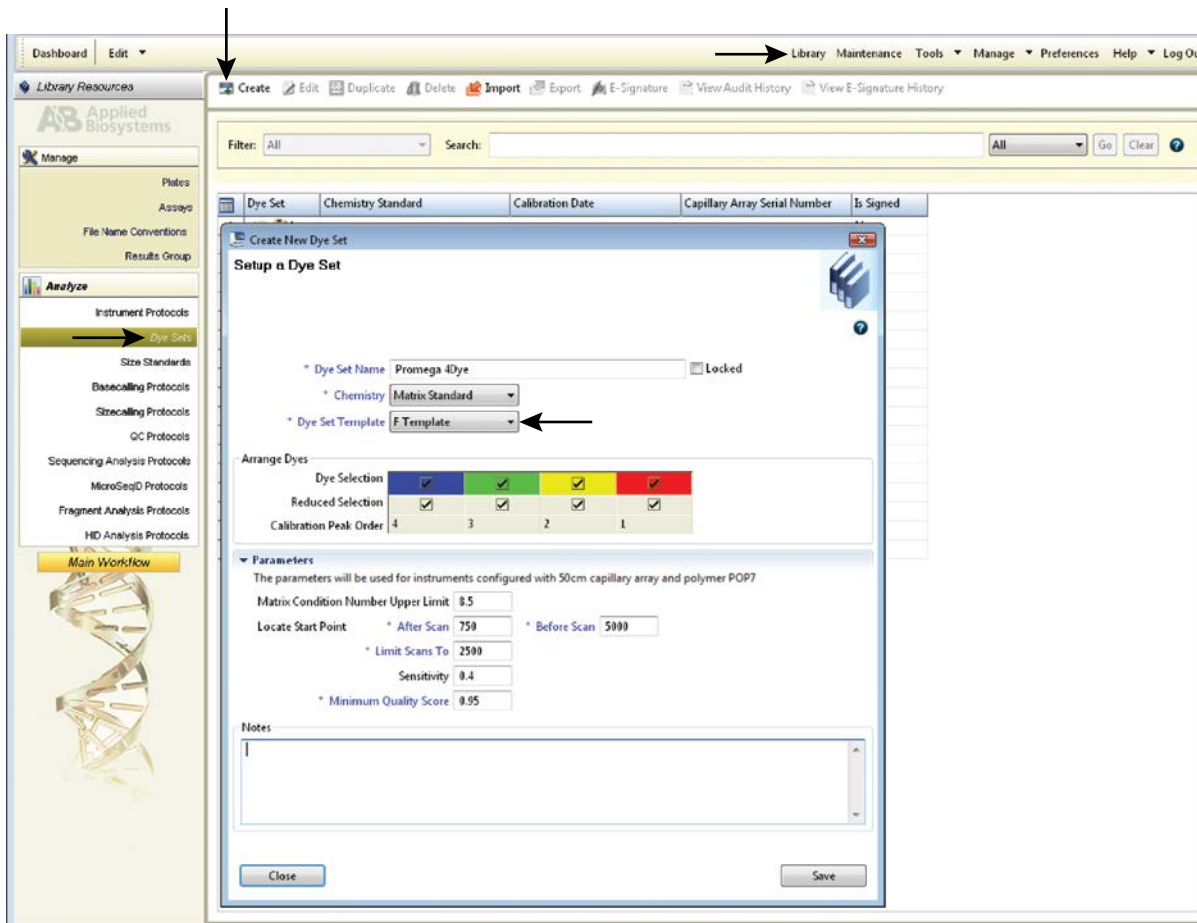

Figure 2. The Create New Dye Set window.
- a. To create the new dye set, navigate to the Library, highlight “Dye Sets” and select “Create” (Figure 2).